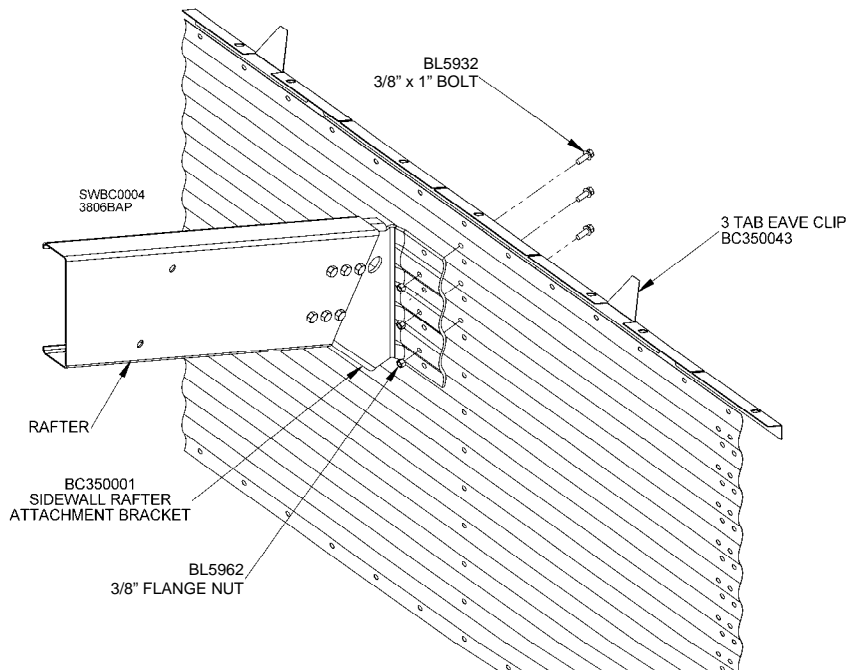

Fig. 10
Lift sidewall rafter attachment brackets to attachment locations (top of brackets flush with sidewall sheet) and secure each bracket with three (3) 3/8" x 1" bolts and 3/8" flange nuts. Insert bolts from outside of bin sheet. See Fig. 10. Tighten these bolts at each location.